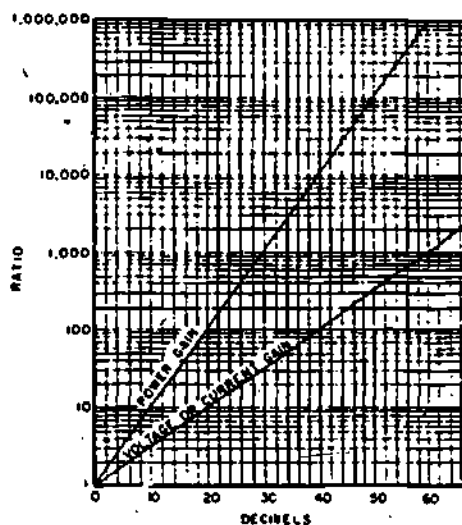
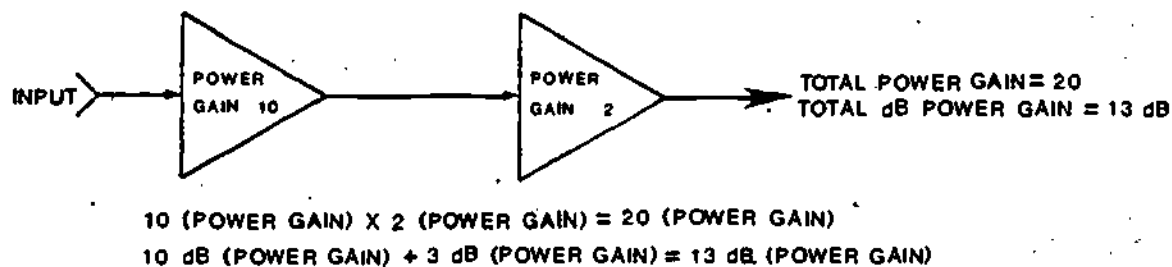

Figure 13
Figure 14
21. You have learned to convert voltage gain ratios and power gain ratios to decibels using charts and graphs. You have also learned to use decibels to find the total voltage gain in some simple circuits. Now let's try a problem in which you will be combining power gain ratios instead of voltage gain ratios. The procedure is the same. The only difference is that power gain ratios convert to different decibel numbers than do voltage gain ratios. The decibel conversion chart and graph are repeated in Figure 13.
Figure 14 shows a diagram of a circuit containing two cascaded amplifiers.
The power gain ratio in Figure 14 for the first amplifier is 10, and for the second amplifier is 2. The total circuit power gain equals the product of the individual amplifier power gains, or in this case a gain of 20. You will notice that decibels can also be used to express
this gain. Figure 14 also shows that the decibel conversions for the power gain ratios of 10 and 2 are 10 dB and 3 dB respectively. As an exercise, verify the decibel conversions by using Figure 13. Remember to read down the "power ratio" column on the dB chart; or read across to the "power gain" diagonal line on the dB graph. As you can see, the total circuit power gain in decibels equals the sum of the individual amplifier power gains in decibels, or 13 dB. Use Figure 13 again and verify that the total circuit power gain ratio of 20 converts to a total circuit power gain of 13 dB.